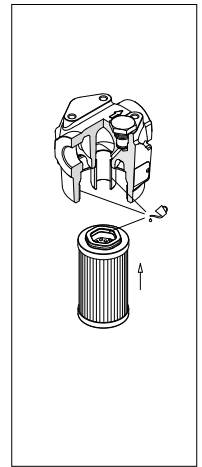

fig. 12
- (Fig. 12) Lubricate with the operating fluid the filter element Hex Ring, the housing tap and cavity, then fit the filter element on the tap. Pay attention not to damage the Hex Ring seal